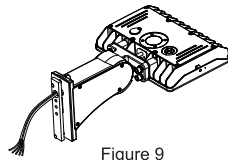

Figure 9
Step 3: Pass the input wire through the bracket and lock the bracket(Figure 9).